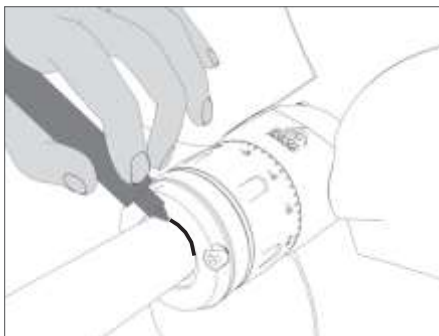

FIG. 9 Mark with a felt-tip pen here on the shaft
- Use a felt-tip pen to mark the maximum fitting point on the shaft (**Fig. 9**).